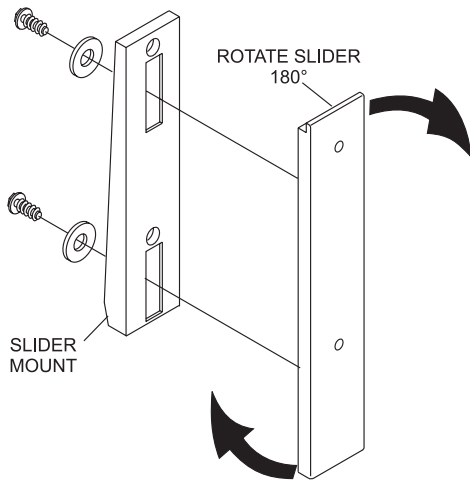

Figure 5
4. Remove the two K70 x 18mm hex head screws that attached the slider assembly to the slider mount. Refer to Figure 5.
5. Turn the slider upside down and remount it to the slider mount using the same hardware removed in step 4. Refer to Figures 5 and 6.